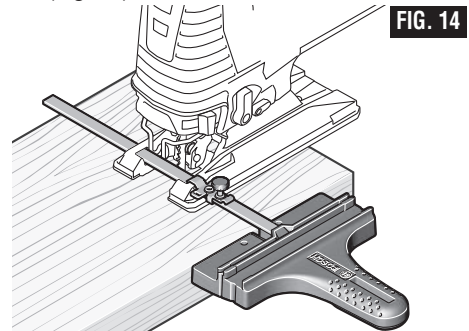

FIG. 14
1. The guide fence surface needs to be positioned **ALONGSIDE** the workpiece (Fig. 14).
4. Insert jig saw plug into power source, hold the saw firmly, squeeze trigger and slowly push the saw forward (Fig. 14).